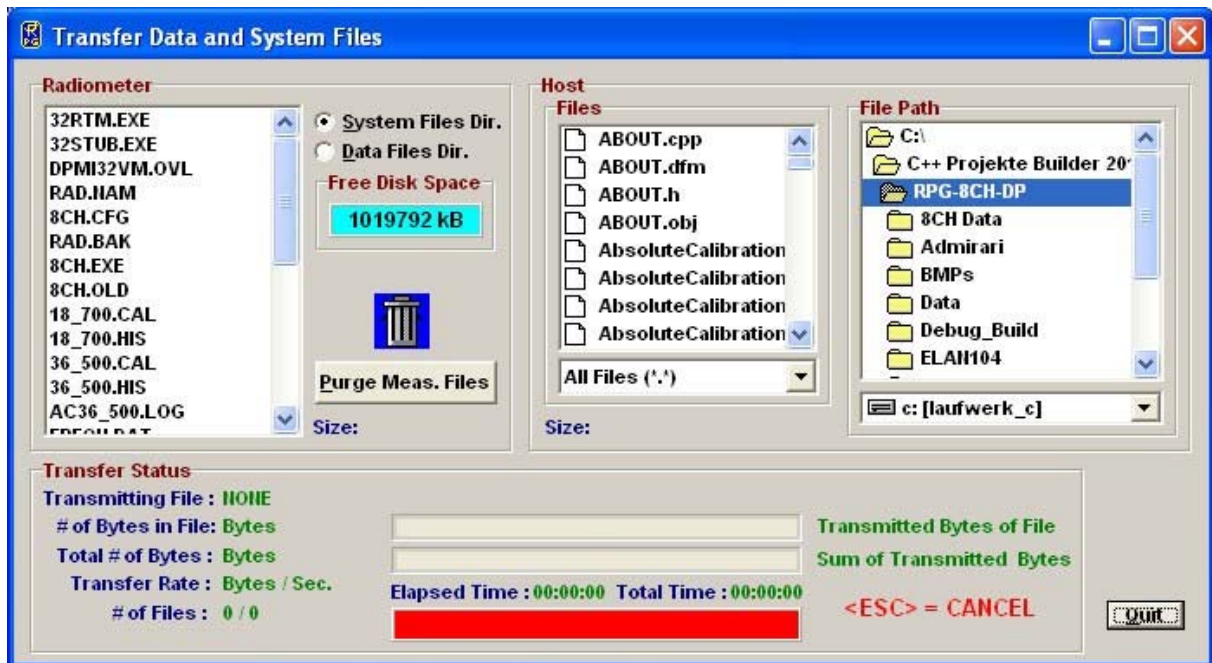

Fig.4.2.1: File Transfer Menu
- Connect the host to the radiometer and enter the File Transfer Menu (, Fig.4.2.1). On the right side (Host) browse to the directory for saving the files (e.g. C:\MyPath\ SAVE) and on the left side (Radiometer) in the System Files Directory mark the 2CH.EXE file. Then drag and drop the 2CH.EXE file to the C:\MyPath\ SAVE directory to initiate the copy process.
- Copy the new version of 2CH.EXE (the radiometer PC software) on an arbitrary directory on your hard disk (e.g. MyPath\RPG-HATPRO\Radiometer PC). Then enter the file transfer menu in Fig.4.2.1 and browse to that directory. Mark the 2CH.EXE file in the Files-list and drag and drop it to the System Files Directory list. Because you are now going to overwrite a file in the System Files Directory (which is password protected for write access) a password entry window pops up. Please enter the following password in exactly the way as it is printed here: